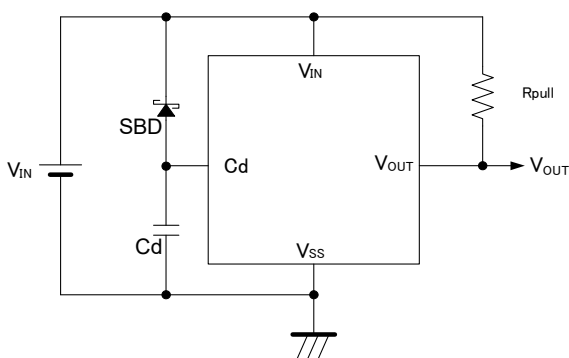

Figure 3: Circuit example with a Schottky diode connected to the Cd pin
- To place a Schottky diode between the V_{IN} pin and the Cd pin. (See Figure 3)